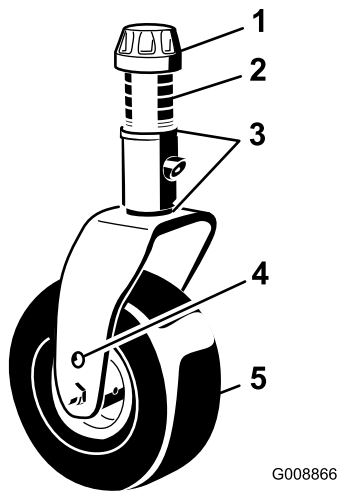
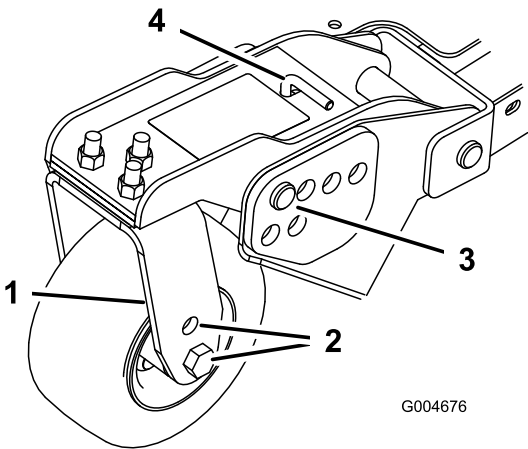
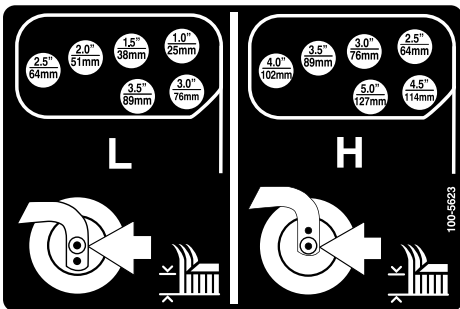

Figure 24
Figure 26
Figure 27
1. Position the caster-wheel axles in the same holes in all of the caster forks (Figure 24 and Figure 26).
2. Remove the tensioning cap from the spindle shaft and slide the spindle out of the caster arm (Figure 24).
5. Remove the hairpin cotter and clevis pins from the caster-pivot arms (Figure 26).
6. Rotate the tension rod to raise or lower the pivot arm until the holes are aligned with the selected height-of-cut bracket holes in the mower-deck frame (Figure 26 and Figure 27).